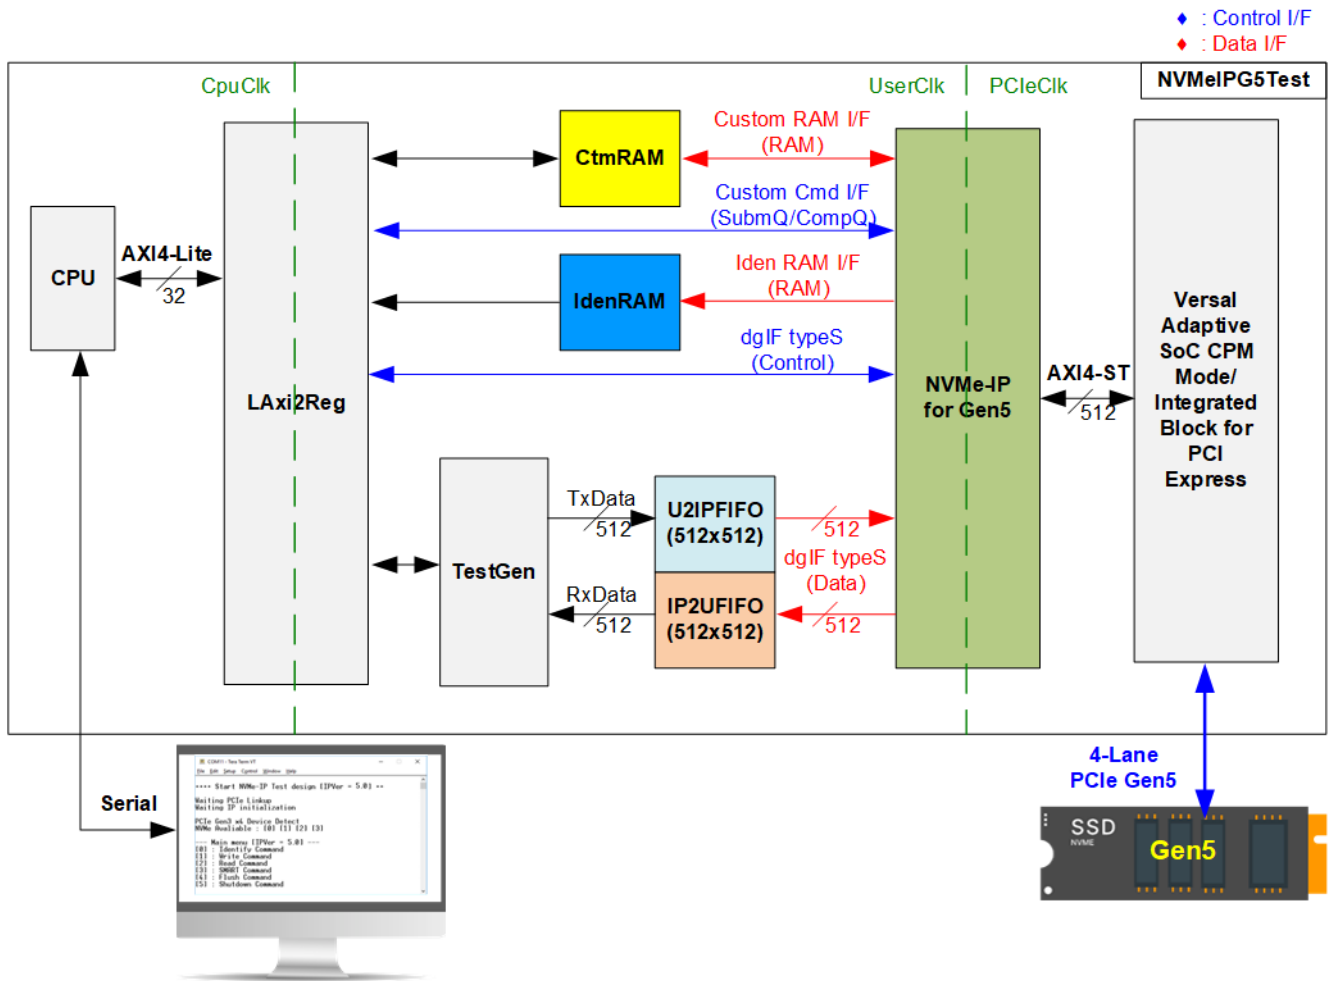

Figure 2-1 NVMe-IP for Gen5 demo hardware
- Figure 2-1 displays three clock domains used in the design: CpuClk, UserClk, and PCIeClk.